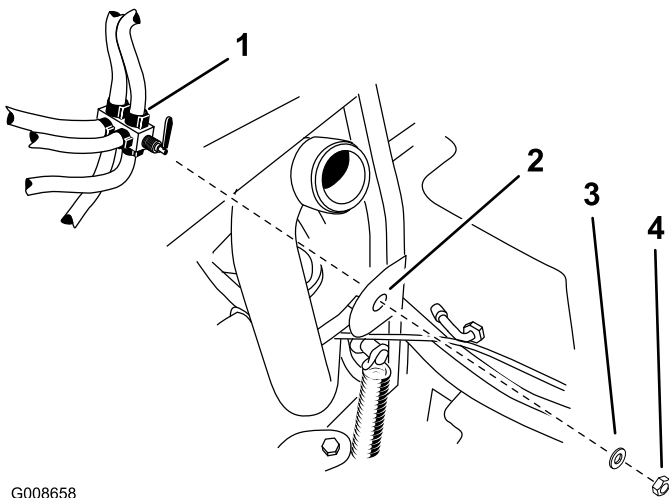

Figure 5
15. Using the previously removed hardware, install the new fuel selector valve (Figure 5).